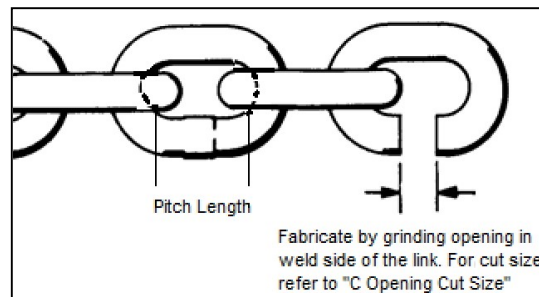

Figure 7.3.1
6. Use open "C" links for attaching the new chain to the old chain (see Figure 7.3.1). Links must be identical in size to hoist chain. Refer to Table 7.3.1 for "C Opening Cut Size". The new chain is then run into the hoist as the old chain is run out. Be certain that all welds on the links of the replacement chain face away from the center of the load sprocket.